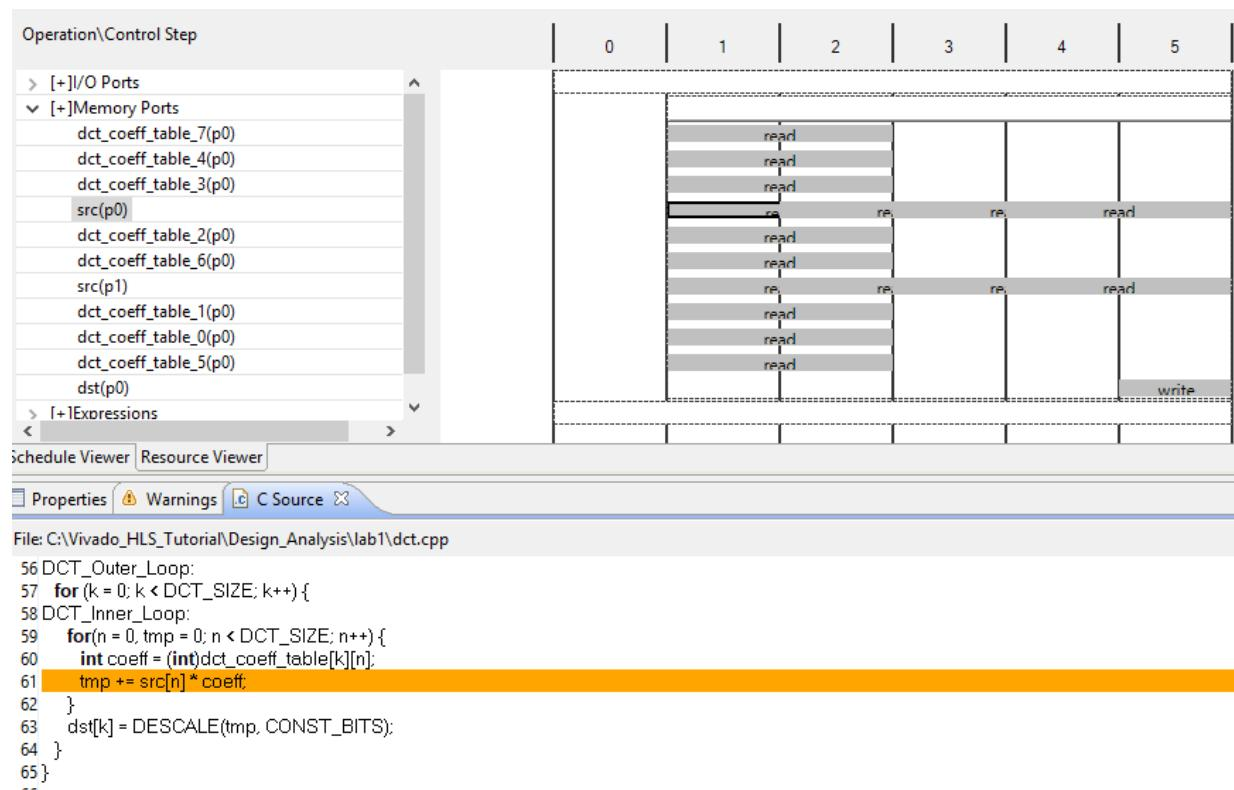

Figure 6-24: Memory Resource SRC and Source Code
18. Right-click and select **Goto Source** to see the view shown in Figure 6-24.
Figure 6-24 shows this read on the `src` variable is from the read operation inside loop `DCT_Inner_Loop`. This loop was automatically unrolled when `DCT_Outer_Loop` was pipelined and all operations in this loop can occur in parallel (if data dependencies allow).
The eight reads are being forced to occur over multiple cycles because the array `src` is implemented as a block RAM in the RTL and a block RAM can only allow two reads (maximum) in any one clock cycle. In Figure 6-24, the read operations take 2 clock cycles: a cycle to generate the address for the block RAM and a cycle to read the data. Only the launch (address generation cycle) is shown because it overlaps with the operation in the next clock cycle.